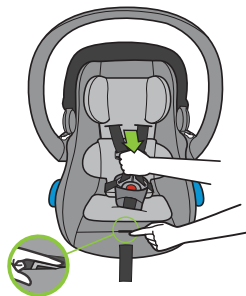

Figure 12
- Press down on Harness Adjuster Tab and pull out on Shoulder Harness Straps, as shown in **Figure 12**. The Harness Adjuster Tab is accessible through the slot sewn into the fabric between the Harness Adjuster Strap and the Crotch Strap.